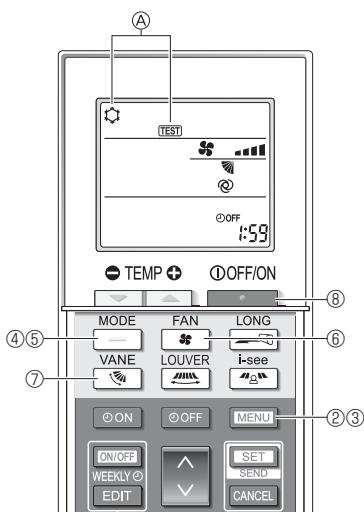

Fig. 8-5
- ① Turn on the power to the unit at least 12 hours before the test run.
- ② Press the **[MENU]** button for 5 seconds. (Fig. 8-5)
Ⓐ [TEST] and the current operation mode are displayed. (Fig. 8-5)